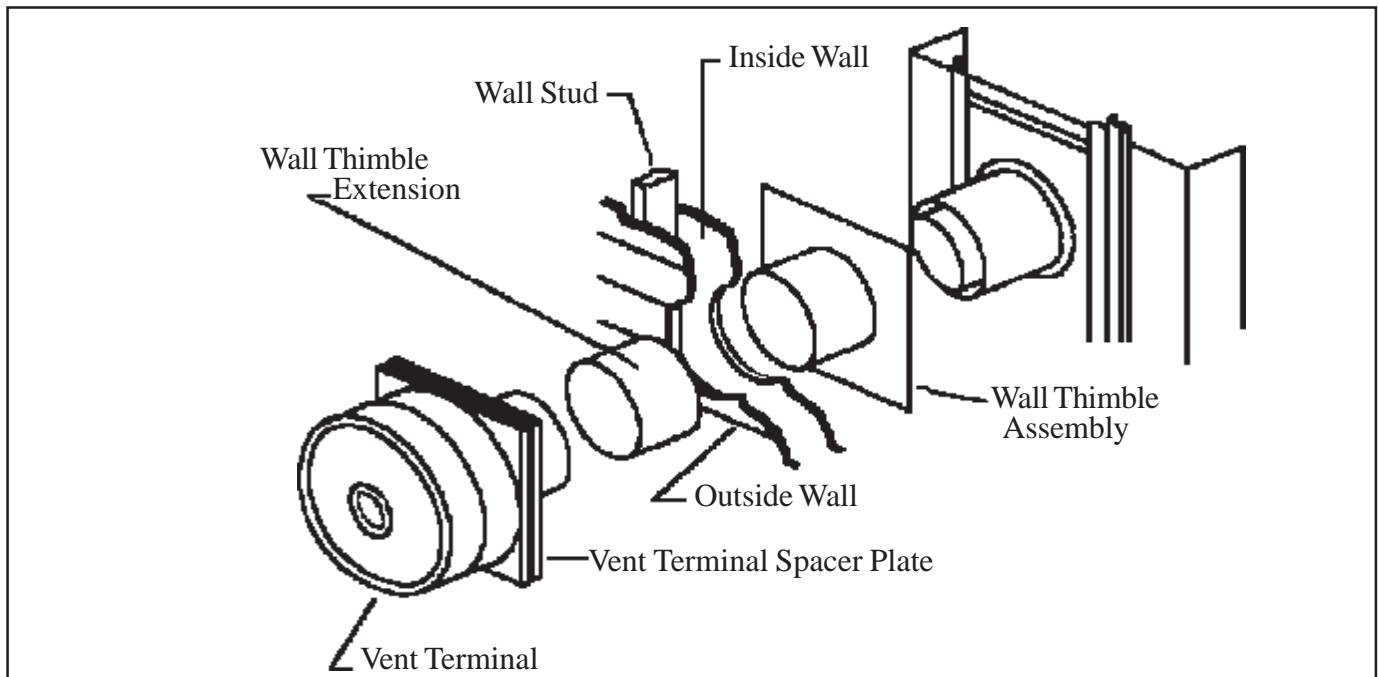

FIGURE 7
STEP 3. INSTALLING FURNACE – 5" TO 9" WALLS. Use only the exhaust tube, air intake tube, wall thimble extension, and vent terminal provided with furnace. Do not attempt to lengthen the exhaust or air intake tubes, this could cause an imbalance in the furnace resulting in poor performance and pilot outage, see Figure 6. Extend the telescoping wall thimble extension (surrounding the wall thimble assembly) to approximately 9 inches. Center the wall thimble assembly in the 9 inch opening and attach to inside wall using eight (8) screws. The wall thimble extension should extend through the opening and be adjusted so end of wall thimble extension is even with outside wall. Install furnace flush to wall by sliding exhaust tube and air intake tube through the wall thimble assembly. Secure the furnace to the wall with screws through each of the four holes in the mounting brackets located on the back of the furnace. These holes are spaced so as to allow the screws to enter into studs that are on 16 inch centers. On certain types of wall, anchors (not provided) may be required. Slide the vent terminal onto the exhaust tube and the air intake tube. Secure vent terminal and vent terminal spacer plate to wall providing a slight downward slope to the vent tubes. This will prevent water from entering. Anchors (not provided) may be required. Caulk around vent terminal spacer plate with putty provided. See Figure 7. NOTE: Some framing may be necessary to provide a flat surface for the vent terminal spacer plate to butt against, so rain cannot enter through cut out.
to 15” wall use Vent Kit No. VK1525/9-15-B. Do not attempt to lengthen the exhaust tube, air intake tube, or wall thimble extension provided with furnace or the VK1525/9-15-B Vent Kit. Disconnect the air intake tube, and the exhaust tube from the back of the furnace and discard. See Figure 6. Replace with exhaust tube and air intake tube from Kit No. VK1525/9-15-B. Discard the 5” telescoping wall thimble extension that surrounds the wall thimble assembly. Center the wall thimble assembly in the 9” opening and attach to inside wall using eight (8) screws. Install furnace flush to wall by sliding exhaust tube and air intake tube through the wall thimble assembly. Secure the furnace to the wall with screws through each of the four holes in the mounting brackets located on the back of the furnace. These holes are spaced so as to allow the screws to enter into studs that are on 16-inch centers. On certain types of wall, anchors (not provided) may be required. From outside the building install the thick wall thimble extension, Part No. 43835, supplied in Vent Kit No. VK1525/9-15-B by sliding it through the cut out and over the wall thimble assembly. The wall thimble extension should be even with the outside wall (some trimming may be necessary). Slide the vent terminal onto the exhaust tube and the air intake tube. Secure vent terminal and vent terminal spacer plate to wall providing a slight downward slope to the vent tubes. This will prevent water from entering. Anchors (not provided) may be required. Caulk around the vent terminal spacer plate with putty provided. See Figure 7. NOTE: Some framing may be necessary to provide a flat surface for the vent terminal spacer plate to butt against, so rain cannot enter through cut out.
15” to 24” wall use only Vent Kit No. VK1525/15-24-B. Do not attempt to lengthen the exhaust tube, air intake tube, or wall thimble extension provided with furnace. The VK1525/15-24-B Vent Kit has a one inch restrictor in the exhaust tube which is necessary for proper and safe operation of this furnace. Do not use any other vent kit. Disconnect the air intake tube and the exhaust tube from the back of the furnace and discard, see Figure 6. Install the exhaust tube and air intake tube from Vent Kit No. VK1525/15-24-B. Discard the 5” telescoping wall thimble extension that surrounds the wall thimble assembly. Center the wall thimble assembly in the 9” opening and attach to inside wall using eight (8) screws. Install furnace flush to wall by sliding exhaust tube and air intake tube through the wall thimble assembly. Secure the furnace to the wall with screws through each of the four holes in the mounting brackets located on the back of the furnace. These holes are spaced so as to allow the screws to enter into studs that are on 16-inch centers. On certain types of walls, anchors (not provided) may be required. From outside the building install the wall thimble extension, Part No. 43730, supplied in Vent Kit No. VK1525/15-24-B by sliding it through the cut out and over the wall thimble extension. For walls 15” to 19” the wall thimble extension, air intake tube, and the exhaust tube must be trimmed even with the outside wall. Slide the vent terminal onto the exhaust tube and into the air intake tube. Secure vent terminal and vent terminal spacer plate to wall providing a slight downward slope to the vent tubes. This will prevent water from entering. Anchors (not provided) may be required. Caulk around the vent terminal spacer plate with putty provided, see Figure 7. NOTE: Some framing may be necessary to provide a flat surface for the vent terminal spacer plate to butt against, so rain cannot enter through the cut out.
Kit No. VK33/9-15-B. Do not attempt to lengthen the exhaust tube, air intake tube, or wall thimble extension provided with furnace or the VK33/9-15-B Vent Kit. Disconnect the air intake tube, and the exhaust tube from the back of the furnace and discard. See Figure 6. Replace with exhaust tube and air intake tube from Kit No. VK33/9-15-B. Discard the 5” telescoping wall thimble extension that surrounds the wall thimble assembly. Center the wall thimble assembly in the 9” opening and attach to inside wall using eight (8) screws. Install furnace flush to wall by sliding exhaust tube and air intake tube through the wall thimble assembly. Secure the furnace to the wall with screws through each of the four holes in the mounting brackets located on the back of the furnace. These holes are spaced so as to allow the screws to enter into studs that are on 16-inch centers. On certain types of wall, anchors (not provided) may be required. From outside the building install the thick wall thimble extension, Part No. 43835, supplied in Vent Kit No. VK33/9-15-B by sliding it through the cut out and over the wall thimble assembly. The wall thimble extension should be even with the outside wall (some trimming may be necessary). Slide the vent terminal onto the exhaust tube and the air intake tube. Secure vent terminal and vent terminal spacer plate to wall providing a slight downward slope to the vent tubes. This will prevent water from entering. Anchors (not provided) may be required. Caulk around the vent terminal spacer plate with putty provided. See Figure 7. NOTE: Some framing may be necessary to provide a flat surface for the vent terminal spacer plate to butt against, so rain cannot enter through cut out.